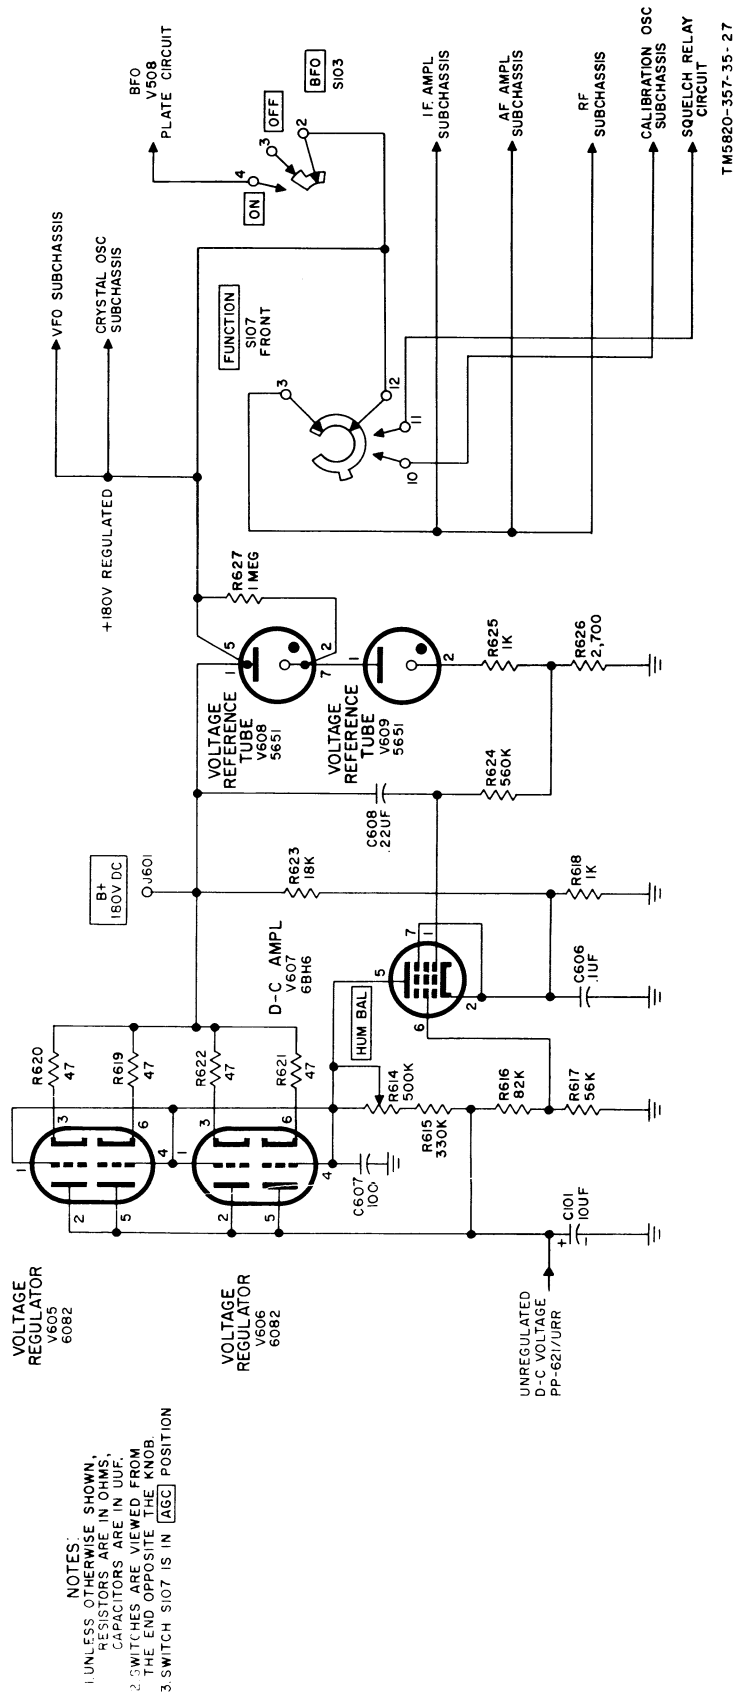

Figure 17. Voltage regulator, simplified schematic diagram.
32. Voltage Regulator (fig. 17)
(fig. 17)